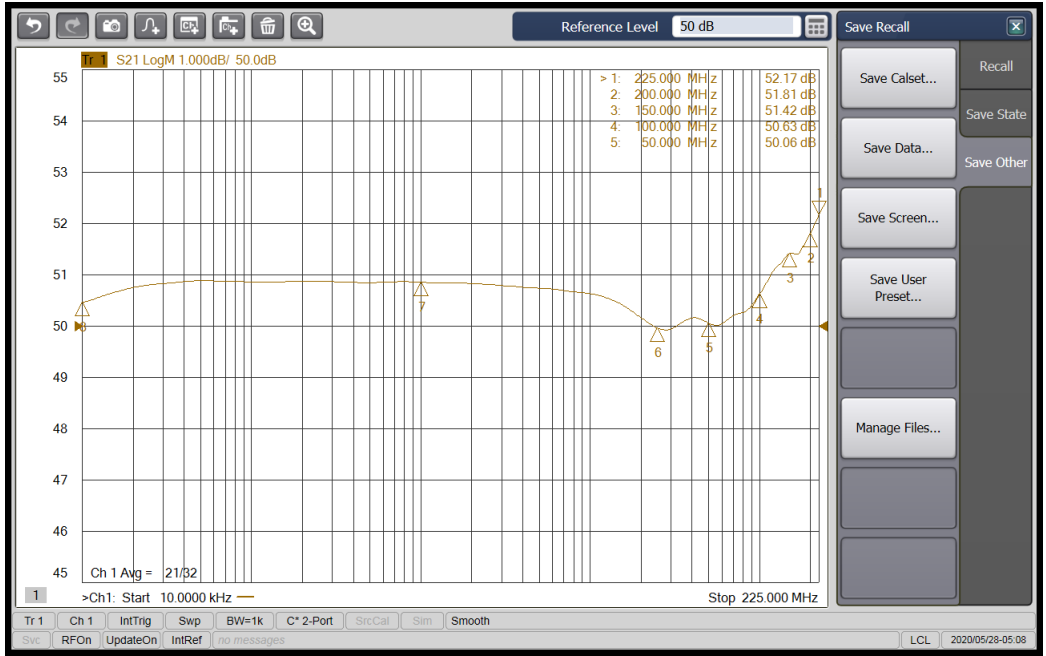

Figure 4-3. Typical A1 Pre-Amplifier/Driver Response -20dBm Input
- The typical response for the A1 Pre-Amplifier/Driver (at maximum gain setting) is shown in Figures 4-3 and 4-4.